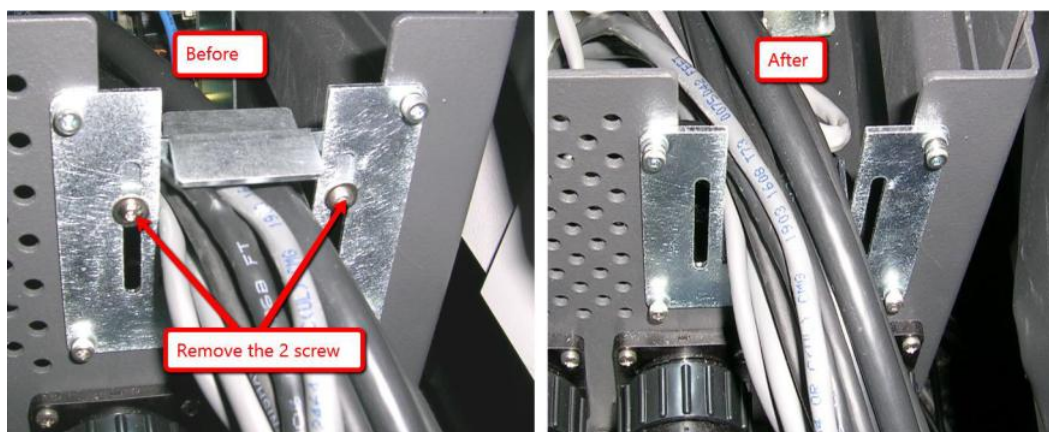

Figure 6 SSCA Cable Clamp
6. Remove 2 x screws from the SSCA Cable Clamp as shown in the Figure 6
7. Remove Y-Axis Read Head Encoder connector from Y-Axis Kollmorgen as shown in the Figure 6